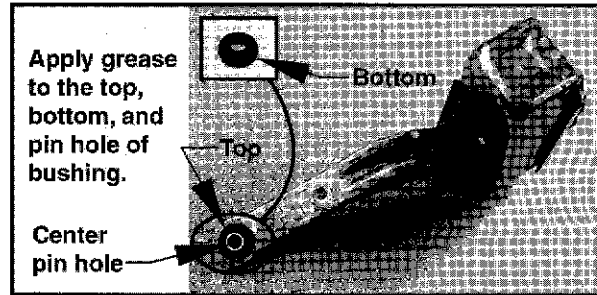

Figure 3
6. Before installing the new bushing, apply molybdenum grease, or equivalent liberally to the door check arm, top and bottom of bushing, and bushing pinhole (figure 3).